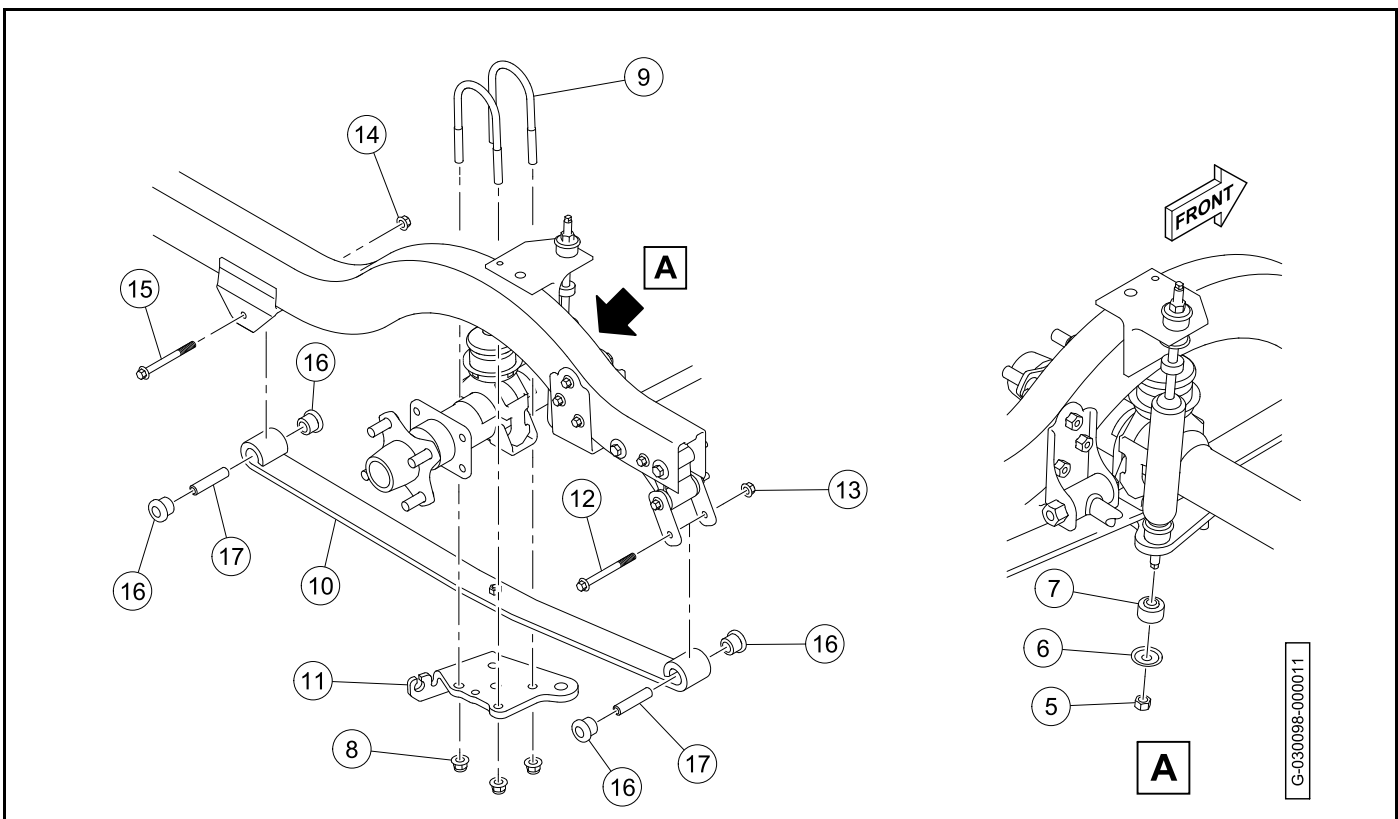

Figure 9-14 Leaf Spring Removal (Four-Passenger - Heavy Duty With Panhard)
7. Remove the cable end (3) from the brake lever.
8. Remove the brake cable from the shock mount bracket (4).
9. Remove the nut (5), cup washer (6), and rubber bushings (7) from the lower mounting stem of the shock absorber (**Figure 9-14**).